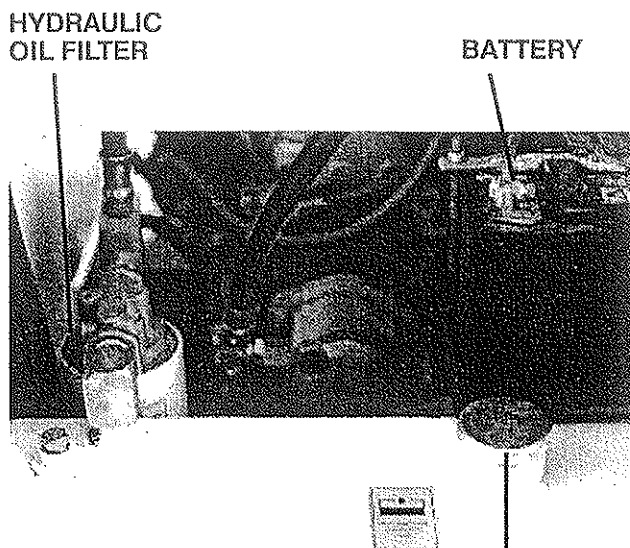

FIGURE 27
2. Remove the oil cap, see **Figure 27**, and check the level. If oil is apparent, the level is satisfactory.